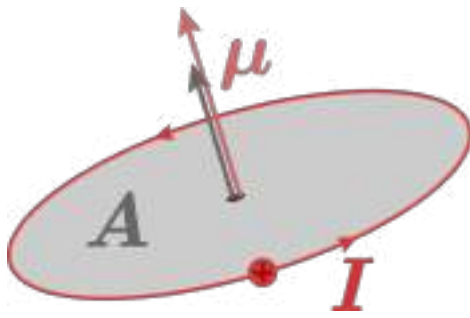

Fig. 1: Magnetic Dipole Moment
- As shown in Fig. 1, the magnetic dipole moment is $\mu = I \times A$.